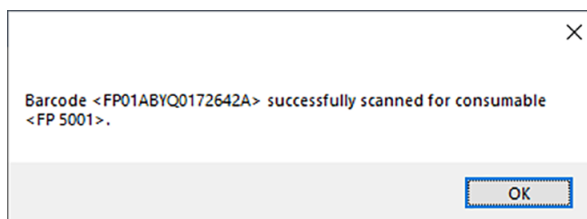

Figure 104 Acknowledgment of bar code entry
- 4 Once the bar-code is accepted, the software will respond with an acknowledgment that the bar-code was accepted (or rejected) (**Figure 104**).